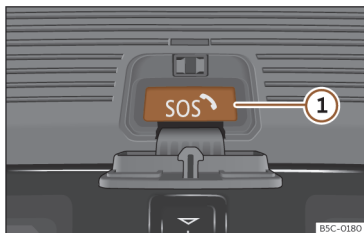

Fig. 47 Emergency call button.
2. Press and hold the emergency call button for a few seconds >>> Fig. 47 ①.
>>> Fig. 47 in the event of an emergency.
The automatic emergency call cannot be interrupted by pressing the emergency call button >>> Fig. 47.
2. Press and hold the emergency call button for a few seconds >>> **Fig. 47 ①.**
>>> **Fig. 47 in the event of an emergency.**